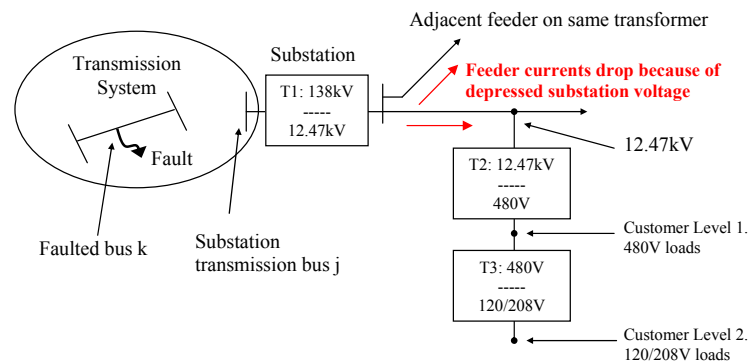
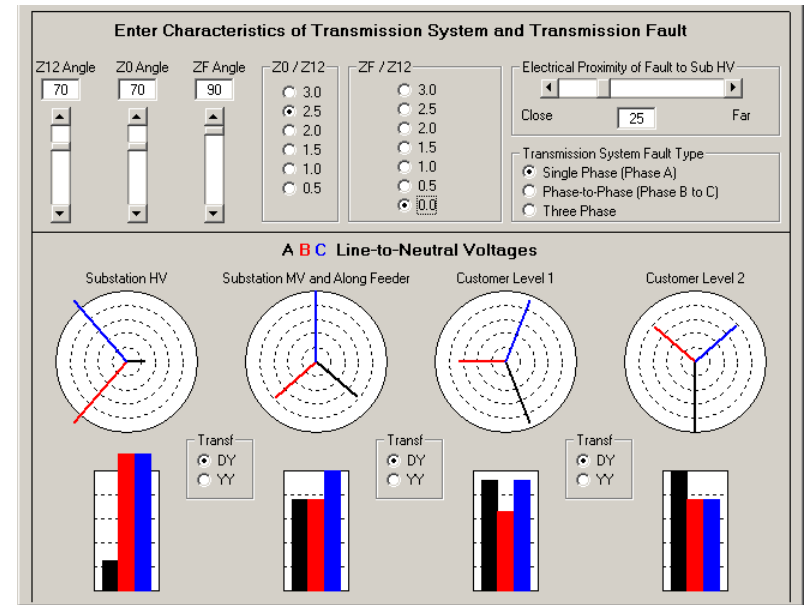

Figure 1. Example System for Analyzing the Propagation of Transmission Voltage Sags into Customer Low-Voltage Buses
Figure 2. Propagation of Close-In Single Phase Fault on the Transmission System (all three transformers have delta:grounded-wye connections)
Consider the typical situation shown in Figure 1. A fault occurs at bus k of the transmission system, causing a voltage sag that affects a substation (bus j) and the customers connected to its feeders. There can be as many as three transformers between the customer's load and the transmission fault point, and each of these transformers can have a  $30^\circ$  phase shift. Typically, all three of the transformers shown (i.e., T1, T2, and T3) are delta connected on the high side, and grounded-wye connected on the low side.
By coding the short circuit equations into a Visual Basic program, and employing (1), voltage sag propagation for the situation described in Figure 1 can now be illustrated. Assuming that the transmission fault is relatively close to the substation (i.e., proximity factor = 25%), and that T1, T2, and T3 are all delta:grounded-wye transformers, the line-to-neutral voltages for single-phase, phase-to-phase, and three-phase transmission faults are shown in Figures 2 – 4, respectively. Both phasor plots and magnitude bar charts are given.